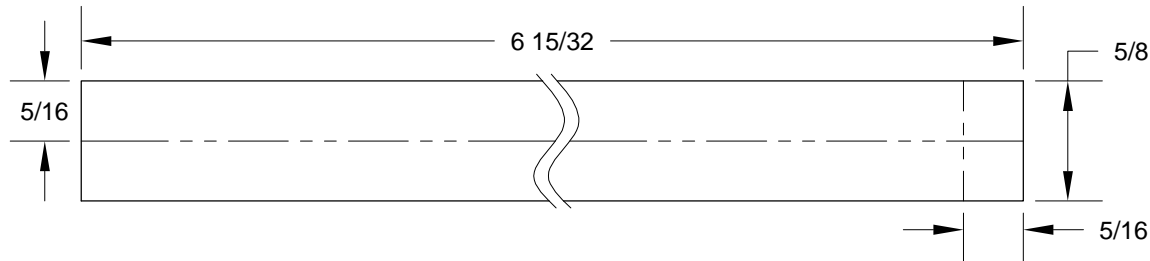

FIGURE 2: CUTTING AND MARKING THE W-1029D SPACER
Step 3: Cut a piece of .063 2024-T3 ALCLAD and mark the alignment lines per the dimensions in Figure 2.